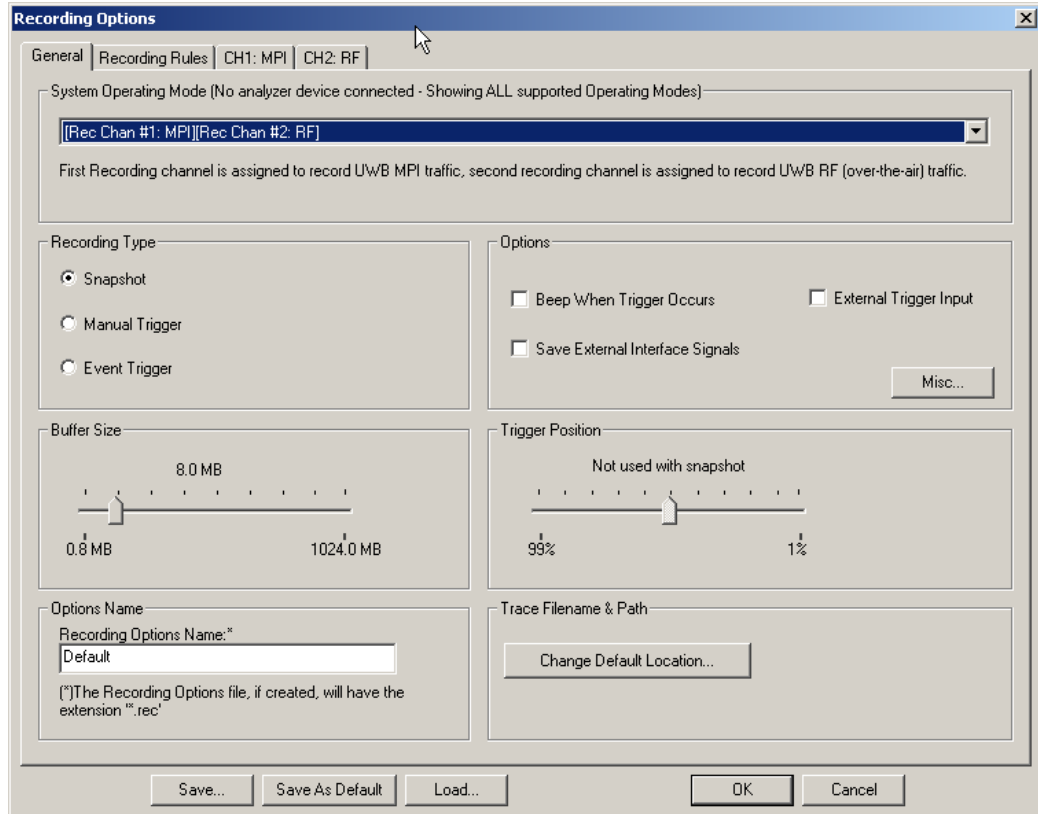

Figure 12.1 Recording Options: General Page
- From the Tool bar, select the **Recording Options**  button to display the Recording Options window (Figure 12.1).